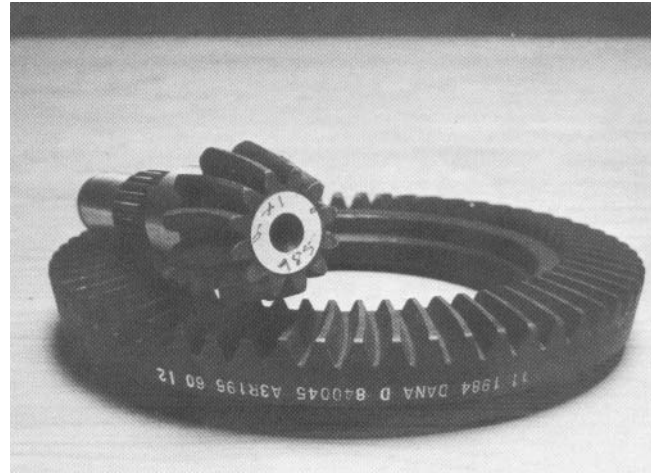

Figure 39
B. When installing NEW ring and pinion gears (supplied in matched sets only) make sure the numbers etched on both the pinion and ring gear match (Fig. 39).